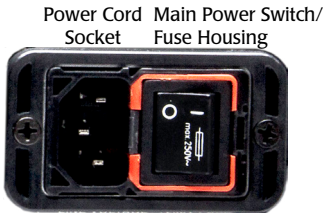

Fig. 61—Unplug the power cord to access the fuse housing release.
1. Turn the main power switch off (I).
2. Unplug the power cord from the power cord socket on the back of the **AirTherm** (Fig. 61).